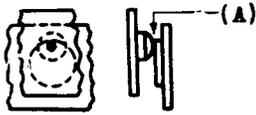

Fig. 2
2.05 Contact and Spring Alignment - Fig. 2